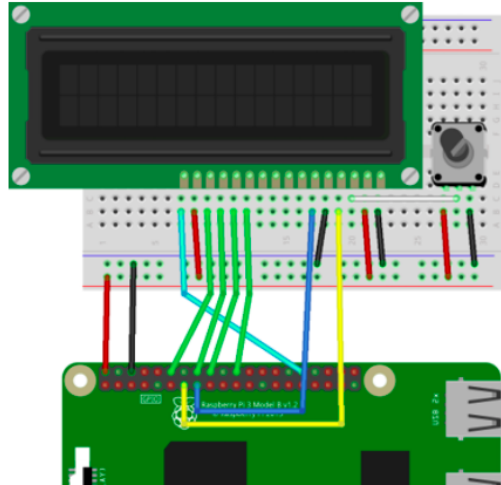

Figure 1-1 Physical sensors connection.
- And insert the jumper wires connecting the LCD Display in the Potentiometer and breadboard, as the scheme shown in the Figure 1-1.
The Figure 1-1 shows how the electric connection is made.